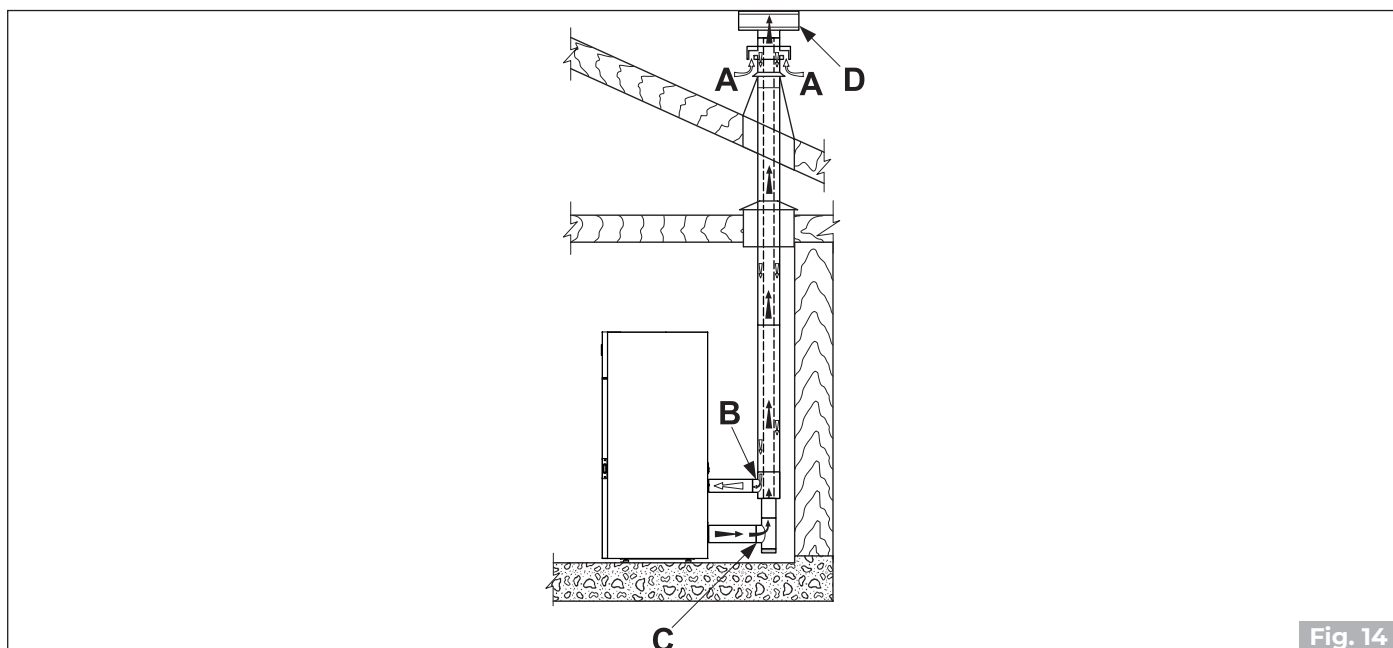

Fig. 14
- it can come directly from outside with direct connection to the combustion chamber (**Fig. 14**);
- channel the combustion air using a coaxial exhaust pipe to expel the flue gases and extract the air (**Fig. 14** - **A, B** = Air inlet, **C, D** = Flue gas outlet); as a consequence it is not necessary to make a classic air intake in the room.